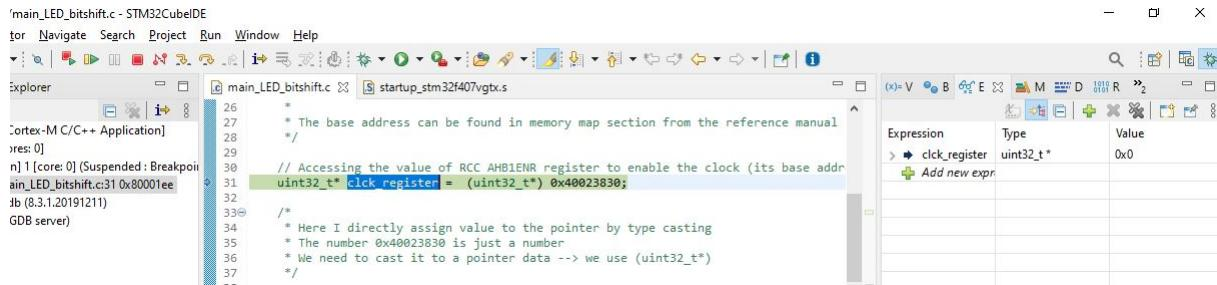

Figure 5.11: Expression Window: Dragging and Dropping a Variable
- Drag and drop the variable from the editor: select the variable name, hold, and drag it. After this step, the variable name will appear in the expression window as shown in Figure 5.11.